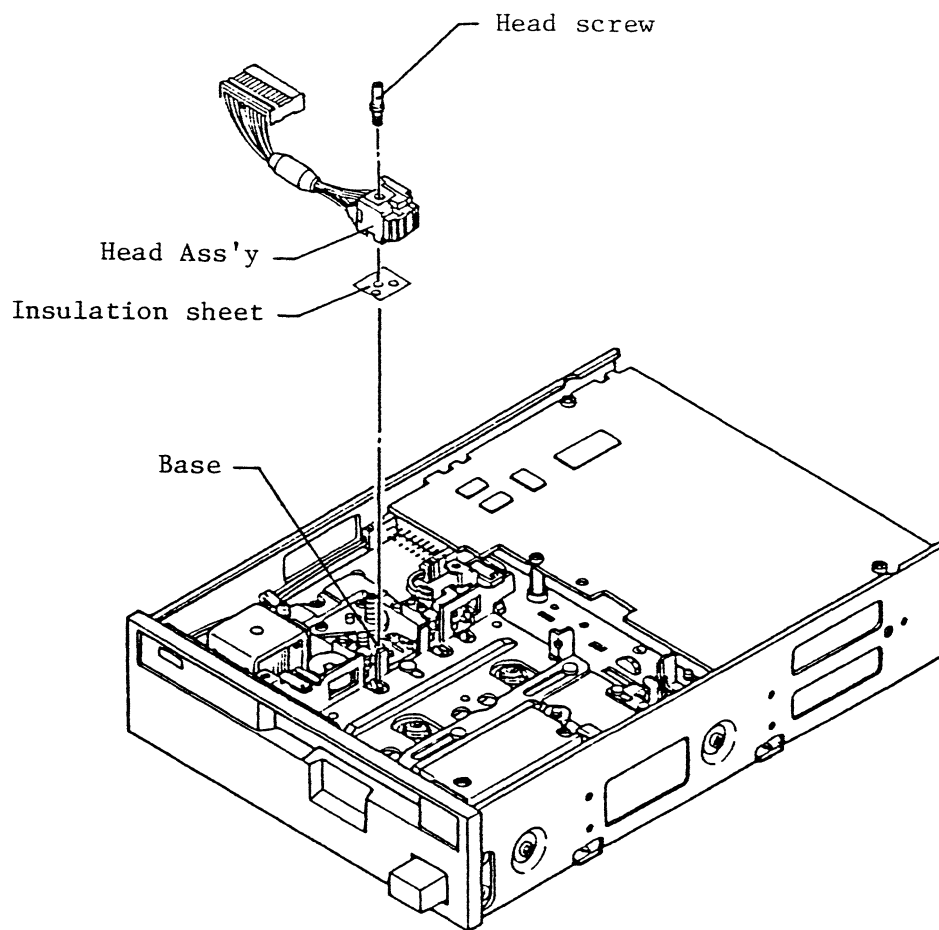

Fig.435 Replacement of head Ass'y
(3) Replacement procedure
- (a) Remove the protector guide in accordance with item 4-2-3 (1).
- (c) Remove the head screws, detach the head Ass'y from the base (Fig. 435).